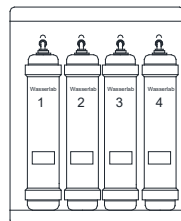

Figure 11.2
- Access the location of the pretreatment. (Cartridges [1] and [2]): The cartridges are installed inside the equipment, on the right side. Remove the right cover to access the pretreatment. See Figure 11.2.